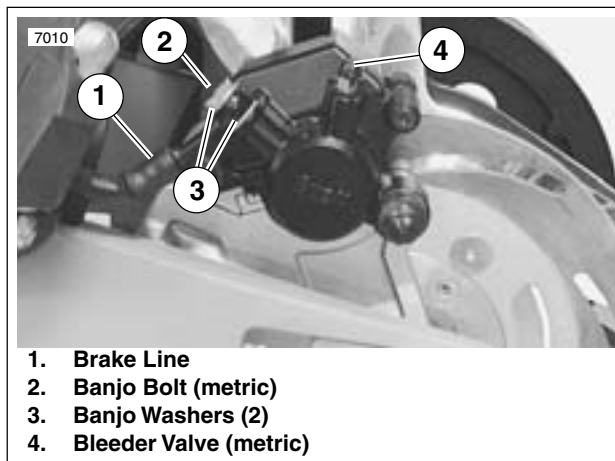

Figure 2-45. Rear Brake Caliper Banjo Bolt (Typical)
2. See Figure 2-45. Remove banjo bolt (2) (metric) and two banjo washers (3) to disconnect brake line (1) from rear brake caliper. Discard banjo washers.
- See Figure 2-45. Connect brake line (1) to caliper with two new banjo washers (3) and banjo bolt (2) (metric). Tighten to 16-20 ft-lbs (22-27 Nm).